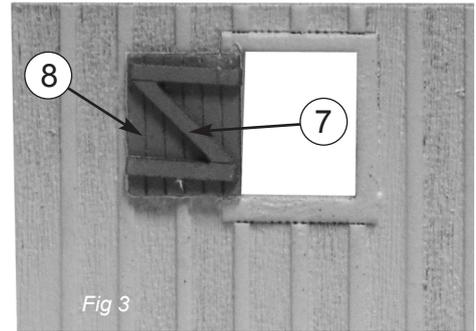

Fig 3
3. If you are going to have the window shutters open, remove the backing paper from the "Z" brace **7** and apply to the scribed side of the shutter **8**. If the shutter is to be closed, it will not be needed. (Fig 3)